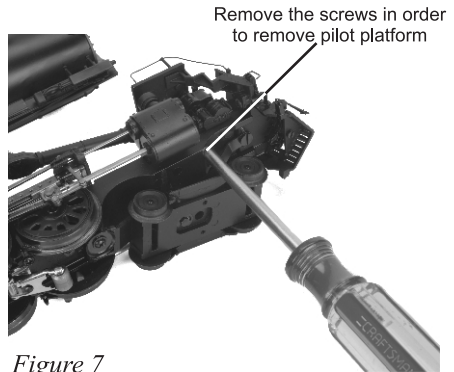

Figure 7
- 1) Remove the screw in order to remove platform on pilot (Fig. 7).